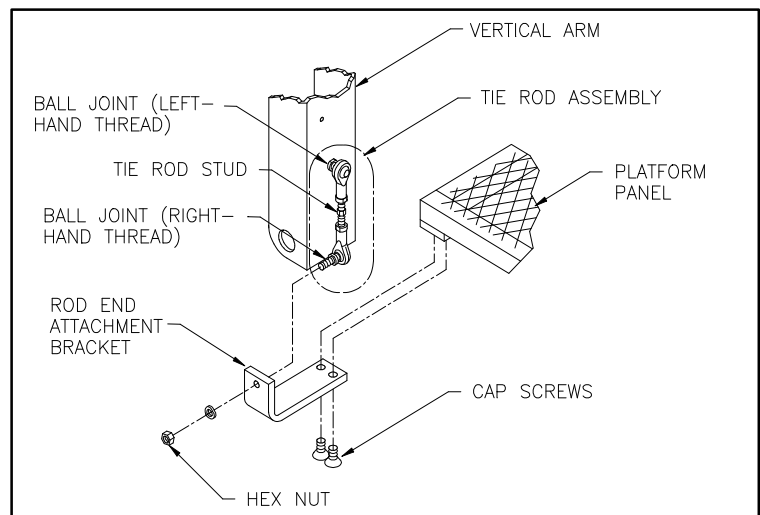

FIGURE 2-20: ROD END INSTALLATION
- b. Refer to **Figure 2-20**. Assemble rod end attachment brackets to left and right tie rod assemblies at right-hand ball joint. Note correct positioning of ball joint on inside of rod end attachment bracket.